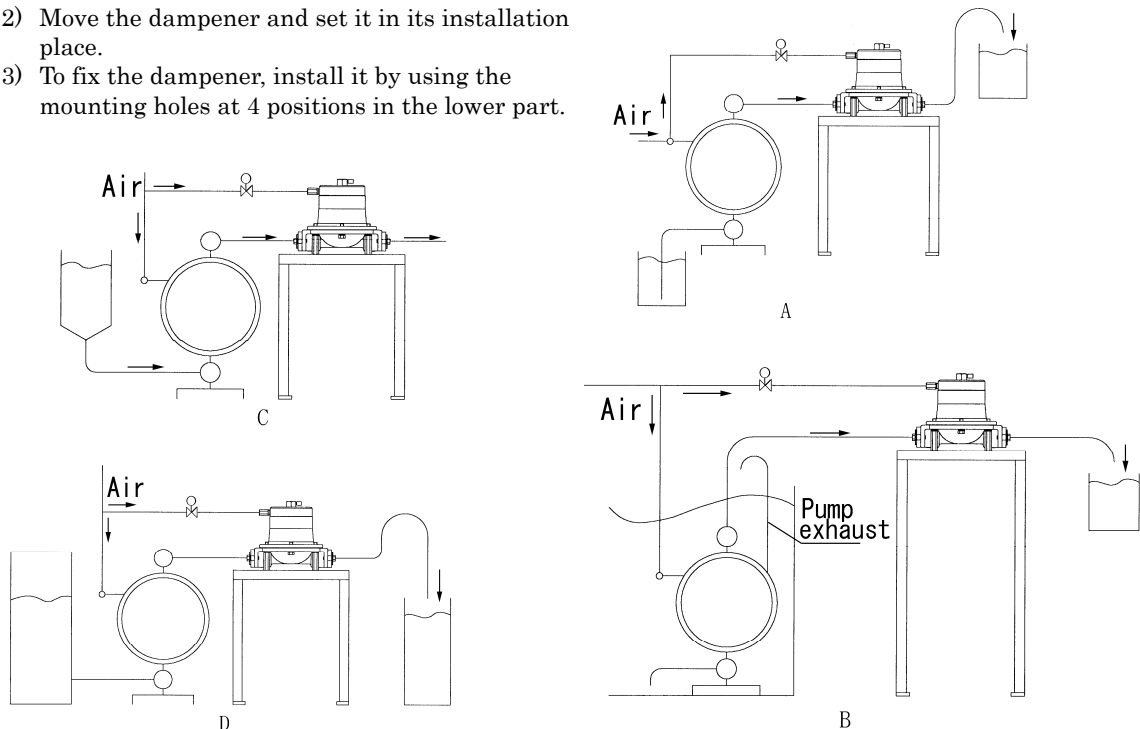

Fig. 3.1
- 1) Select a proper place to install the dampener by referring to Fig. 3.1 and secure a space.